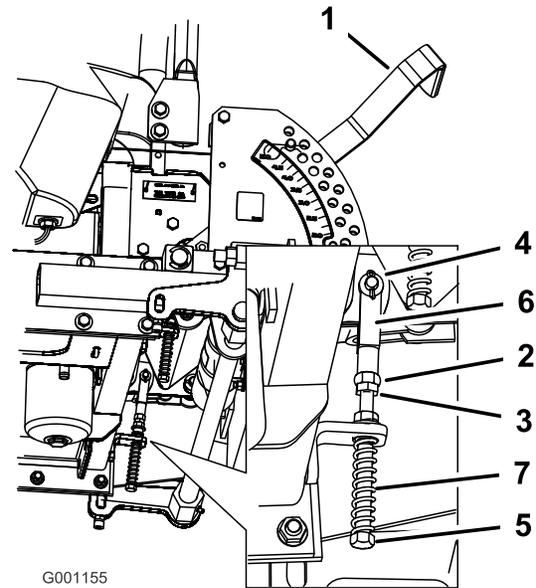

Figure 74
9. Apply slight rearward pressure on the motion control lever, turn the head of the adjustment bolt in the appropriate direction until the control lever is centered in the neutral lock position (Figure 74).
10. Tighten the nut and jam nut (Figure 74).
8. If adjustment is needed, loosen the nut and jam nut against the yoke (Figure 74).